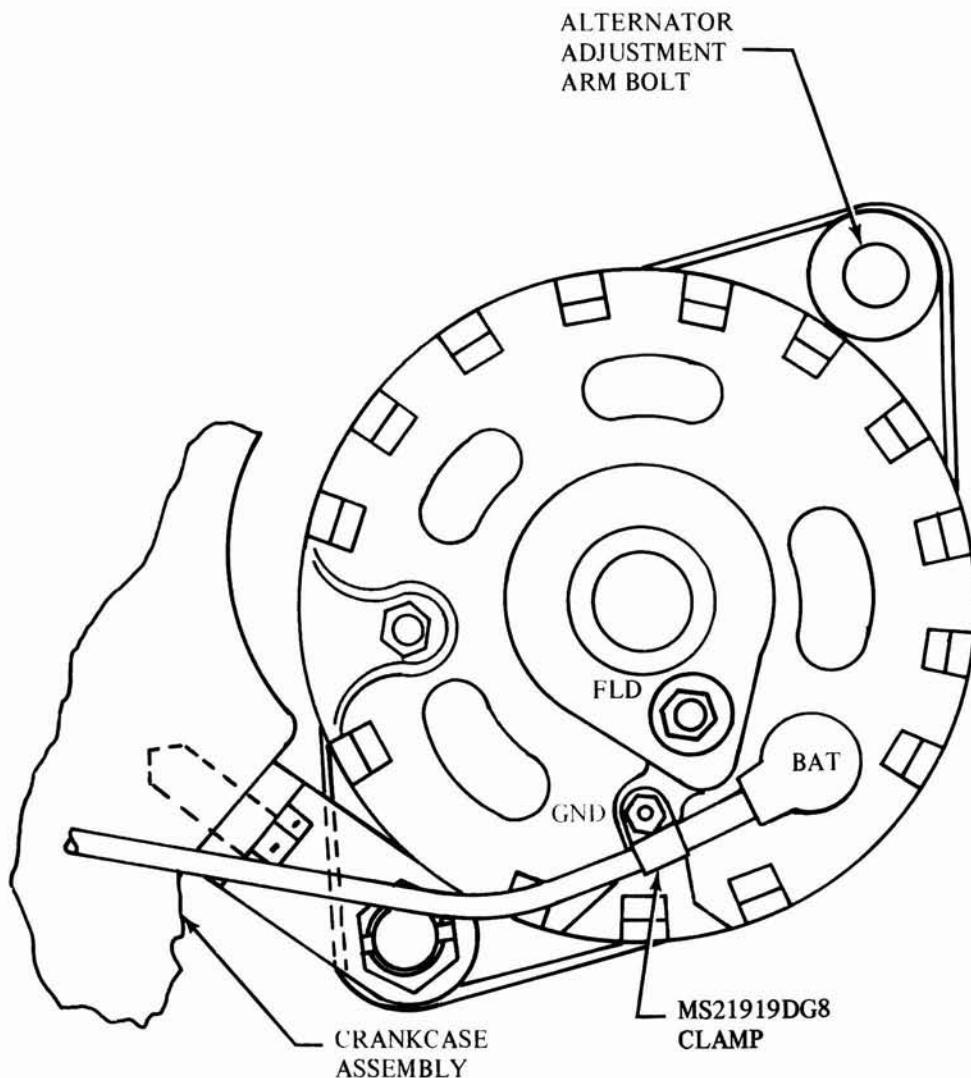

Figure 2. Installation of Clamp
8. Unless previously accomplished, secure the alternator wire harness to the back of the alternator using the MS21919DG8 clamp and existing nut as shown in figure 2.